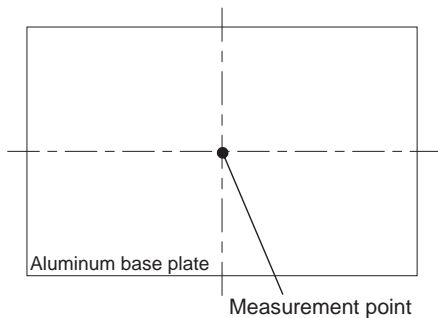

Fig.8.2.3 Measurement point (CES Type P option “B”, “BT”)
- Use with the convection cooling or the forced air cooling. Use the temperature measurement location as shown in Fig.8.2.1 to Fig.8.2.3 below the regulated temperature. Refer to Fig.8.1 for derating curve. Ambient temperature must keep below 85°C.
Use the temperature measurement location as shown in Fig.8.2.3.
Use the temperature measurement location as shown in Fig.8.2.1 to fig.8.2.3 at 120°C or less.